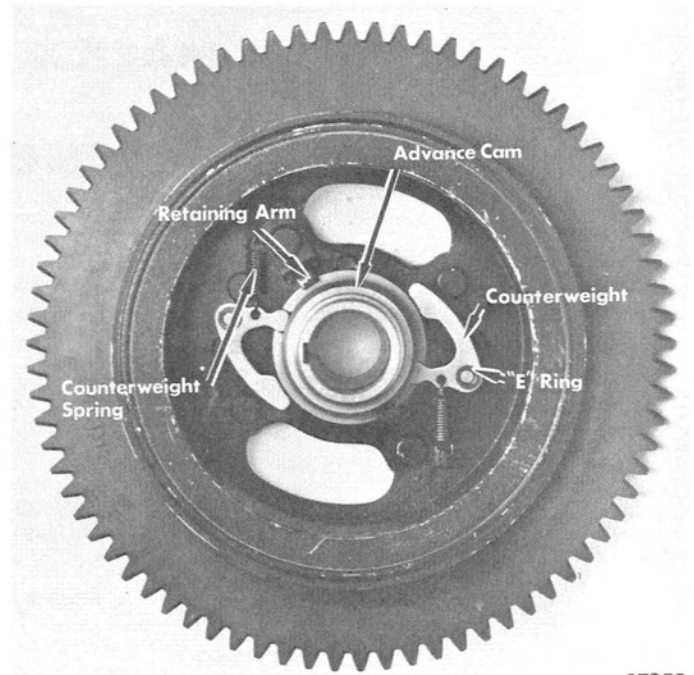

Figure 4. Spark Advance Mechanism
3. Remove "E" rings which hold counterweights to flywheel stud. Note location of spacer washers. (Figure 4)